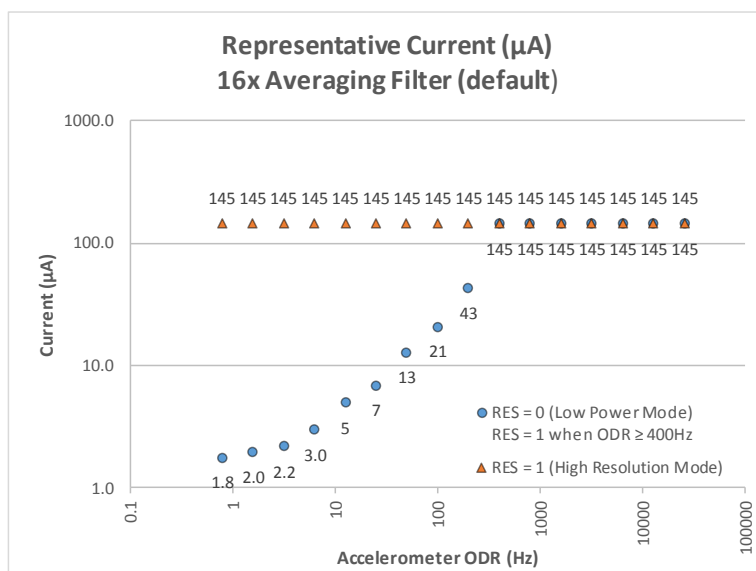

Figure 2: Current as a function of Output Data Rate (ODR) and Power Mode Settings
1. Current varies with Output Data Rate (ODR) as shown in Figure 2, types and number of enabled digital engines, and the Average Filter Control settings that can be tested using Kionix FlexSet™ Performance Optimization Tool found at <http://www.kionix.com/flexset>.